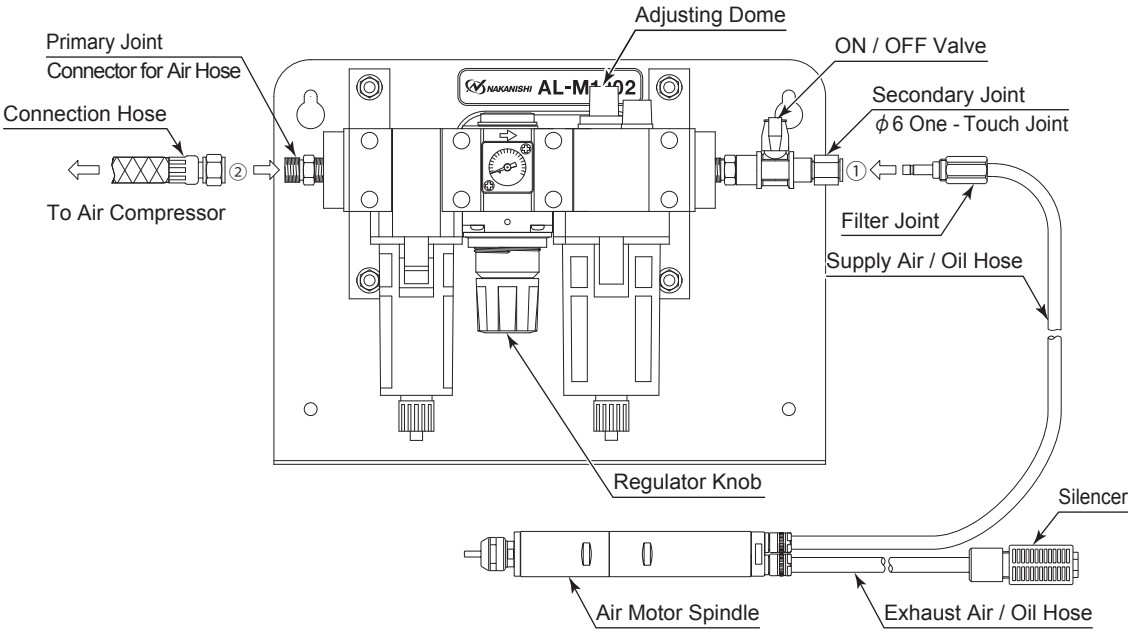

Fig. 19 Connection of Air Line Kit " AL - M1202 (Sold Separately) "
- Connect the Filter Joint of the supply air / oil hose to the Secondary Joint (φ6 One - Touch Joint) of the Air Line Kit (Fig. 19 ①).
- Connect the connection hose (Air Line Kit's Standard Accessories) to the Primary Joint of the Air Line Kit and Compressor. (Fig. 19 ②).